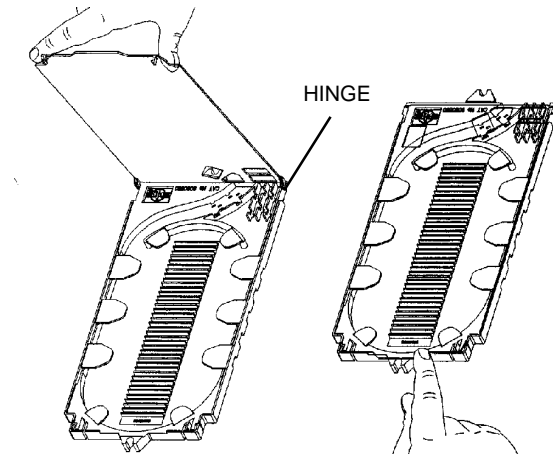

FIGURE 37 - REPLACE SPLICE TRAY COVER
13.10 To replace tray cover, position pivotal arm on plastic cover underneath the hinges on the splice tray and snap into place. (Figure 37)